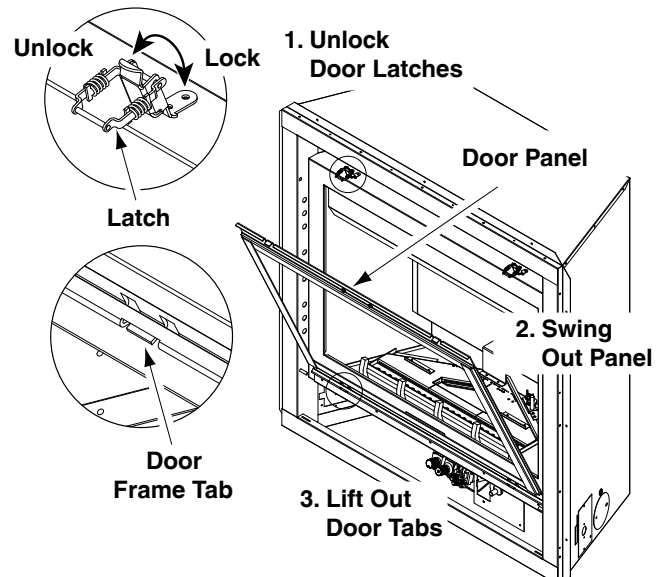

Figure 55 - Removing/Replacing Glass Door
3. Hold the glass frame with one hand and with the other hand unlock the two door latches found on top of the firebox to release tension on the door frame (see detail **Figure 55**).
5. Lift the lower frame tabs out from the positioning slots found on the lower frame retaining bracket (see detail **Figure 55**).